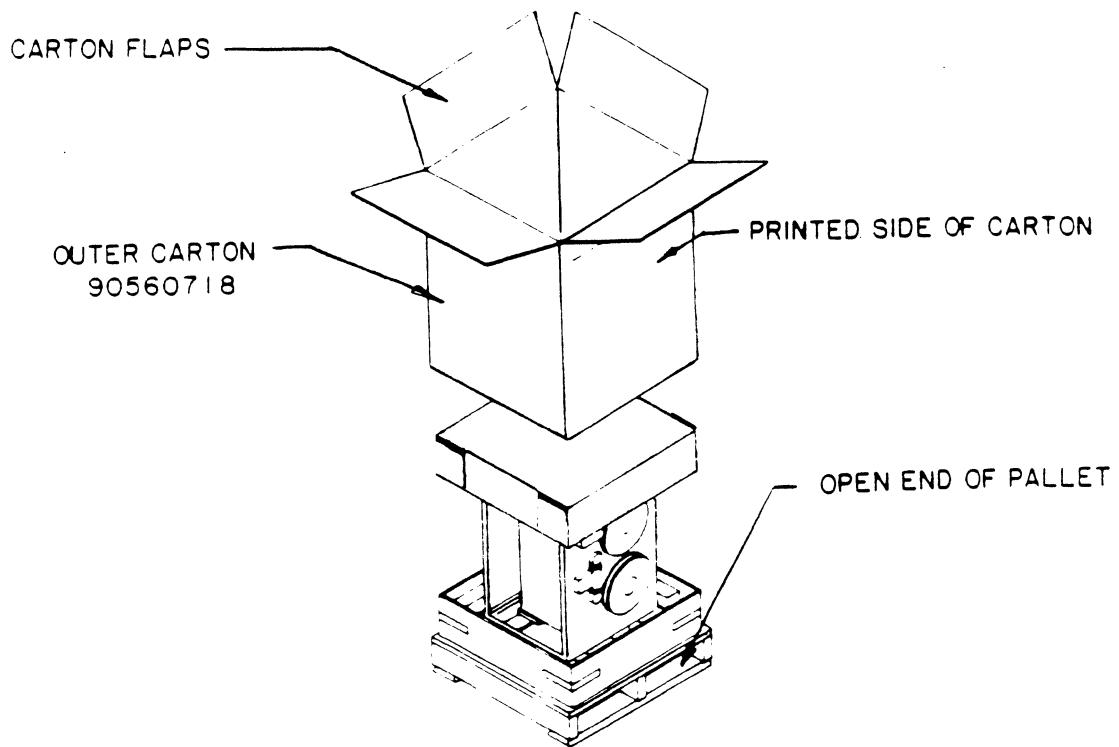

Figure 3-20. STU Shipping Preparation
- h. Align outer carton so printed sides of carton are facing open ends of pallet. Then slide outer carton over top and bottom inner trays down to pallet. Fold (4) carton flaps closed. Be sure printing on (2) flaps is showing (refer to figures 3-20 and 3-21).